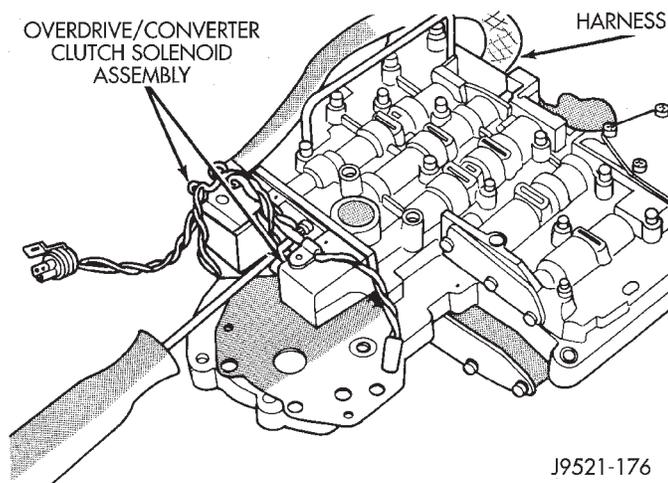

Fig. 67 Solenoid Assembly Screws
- (10) Turn valve body over and remove screws that attach overdrive/converter solenoid assembly to valve body (Fig. 67).